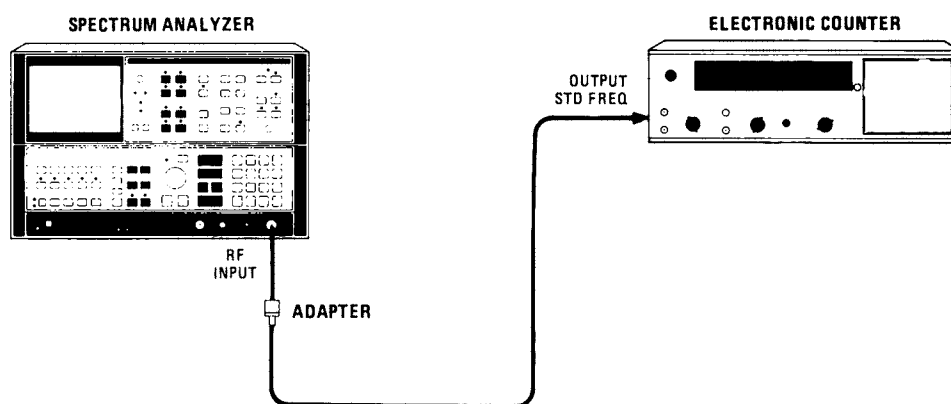

Figure 4-4. Narrow Span Test Setup
Equipment listed is for two test setups, Figures 4-4 and 4-6.
2. Connect equipment as shown in Figure 4-4. MODE control on rear panel of the 5245L counter should be in INT STD FREQ position.